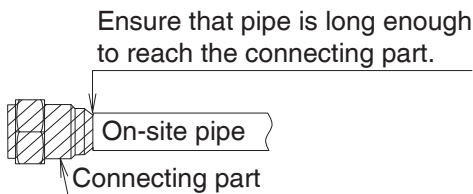

Fig. 2-1
- (1) Ensure that the on-site piping is long enough to reach the edge of the connecting part. (See Fig. 2-1)